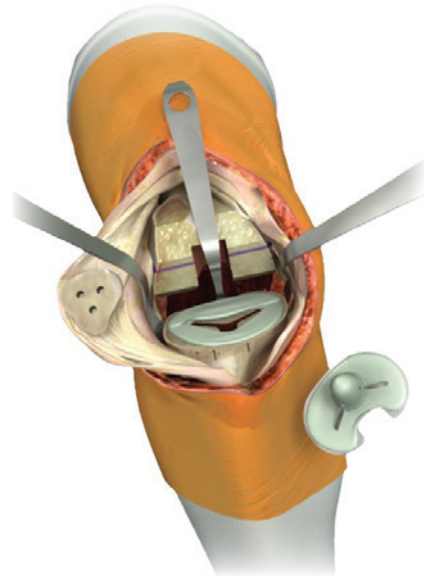

Figure 26
1. Maximally flex the knee and place a thin bent Hohmann retractor laterally and medially and an Aufranc retractor posteriorly to subluc the tibia forward (Figure 26).
2. Apply generous amounts of cement to the dry underside of the baseplate, keel and onto the proximal tibia and keel prep hole (Figure 26).